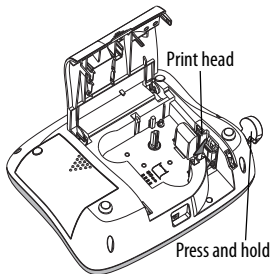

Figure 6
- 2 Press and hold the cutter button to expose the cutter blade. See Figure 6.
- 3 Gently wipe the padded side of the tool across the print head. See Figure 6.